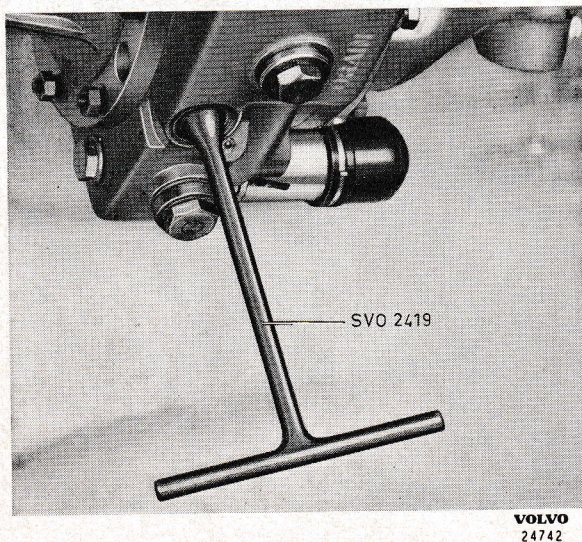
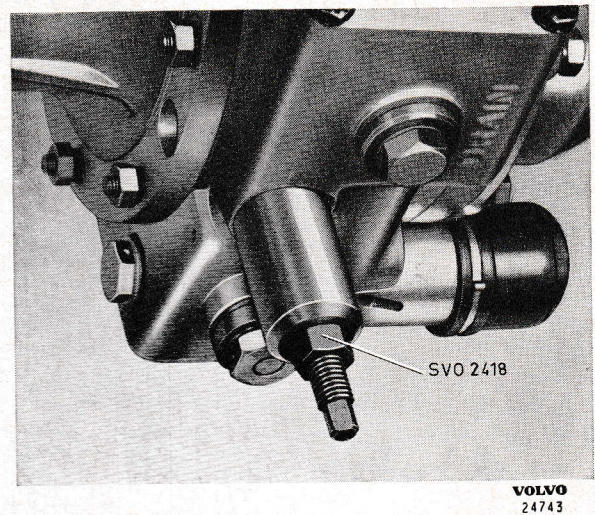

Fig. 9. Removing the valve seating, oil pump
Fig. 10. Removing the oil pump
2. Remove the plug and take out the spring (8) and ball (6). Remove the valve seating (7) with key SVO 2419, see Fig. 9. Clean and check the parts.
Screw puller SVO 2418 into the place of the valve seating and pull out the pump, see Fig. 10.
8. Remove the plugs and take out the parts for the control valve, reducing valve and outlet valve for the pump. Remove the locking screw and take out the oil pump. If the pump does not come out, remove the valve seating with key SVO 2419, see Fig. 9. Then pull the pump out with puller SVO 2418, see Fig. 10.